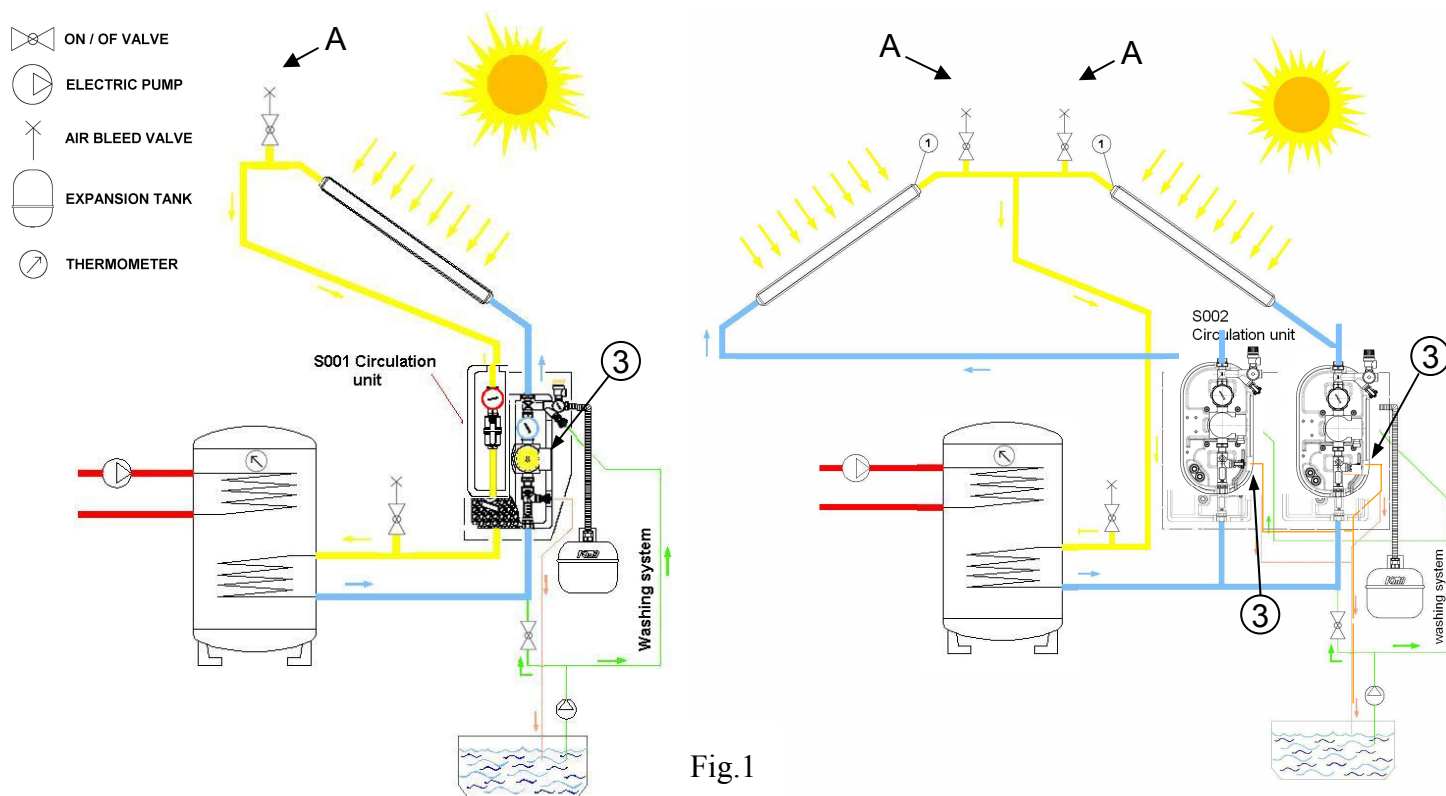

Fig.1
1. Open the on/off valve connected with the air bleed valve A (Fig.1), located at the highest point of the system.
3. Fill the system with a pump, using the tap at the lowest part of the system (3 in Tab.1), until air stops coming out of the air bleed A (Fig.1).
4. Open the air bleed valves A (Fig.1) again, removing air from the system again by turning on the circulation pump briefly.
7. After a few hours of operation, remove air from the solar energy system again at the highest point in the system A (Fig.1) and in the air separator (8 in Tab.1). When you have finished bleeding air, check the pressure in the system and restore the desired operating pressure if necessary.
2. Open the air bleed devices at the highest point A (Fig.1).